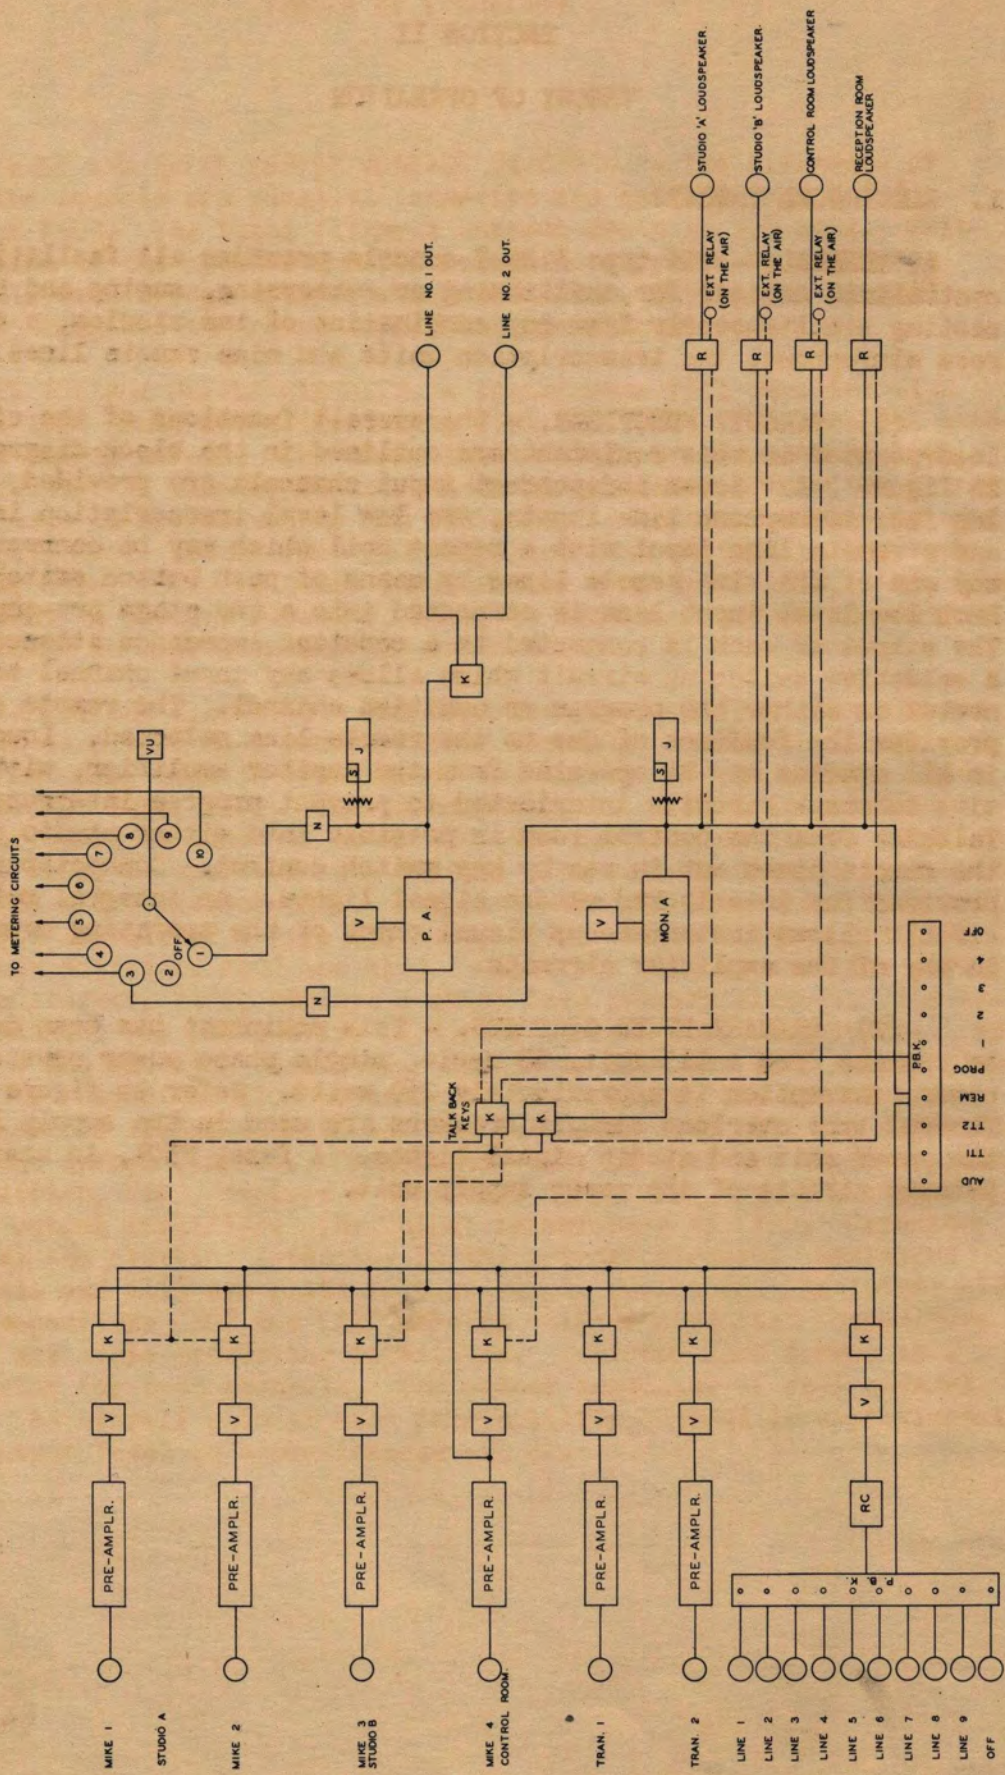

Figure 2-1 Functional Block Diagram
(1) CIRCUIT FUNCTIONS. - The overall functions of the circuits incorporated in this equipment are outlined in the block diagram shown in figure 2-1. Seven independent input channels are provided, including four microphone line inputs, two low level transcription inputs and a remote line input with a repeat coil which may be connected to any one of the nine remote lines by means of push button switching. Each low level input line is connected into a two stage pre-amplifier. The output of each is connected to a constant impedance attenuator and a selective switching circuit which allows any input channel to be connected to either the program or audition channel. The remote channel provides the feedback of cue to the remote line selected. Loudspeakers in all studios may be operated from the monitor amplifier, with selective talkback circuits interlocked to prevent program interruption. Talkback from the control room is possible into either studio or into the remote lines not in use by key switch control. Connections are provided for interlocked studio signal lights. An integral metering circuit allows instantaneous visual check of the operating conditions in any of the amplifier circuits.